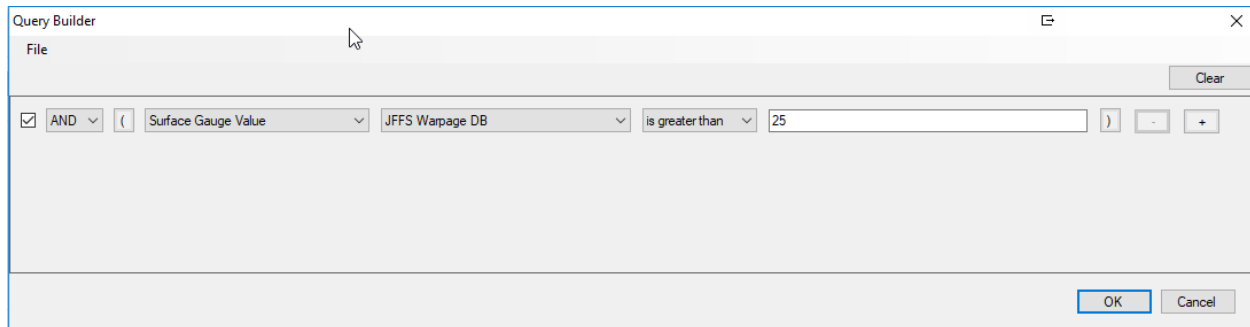

Figure 7.9 Metadata File Filter Query Builder
5. Filter out any data not desired using the Active Metadata File Filter option. Files can be unchecked from being Active by setting up filter/logic conditions in the Metadata File Filter Query Builder (**Figure 7.9**). File filter queries can be saved and loaded as *.akx_query files in the Query Builder interface for future use.